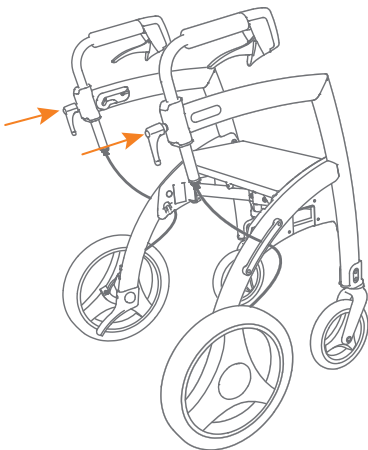

Figure 1: Screw in two adjustment handles before you use the Rollz Motion.
- Screw in both adjustment handles to the maximum (**Figure 1 and 2**).